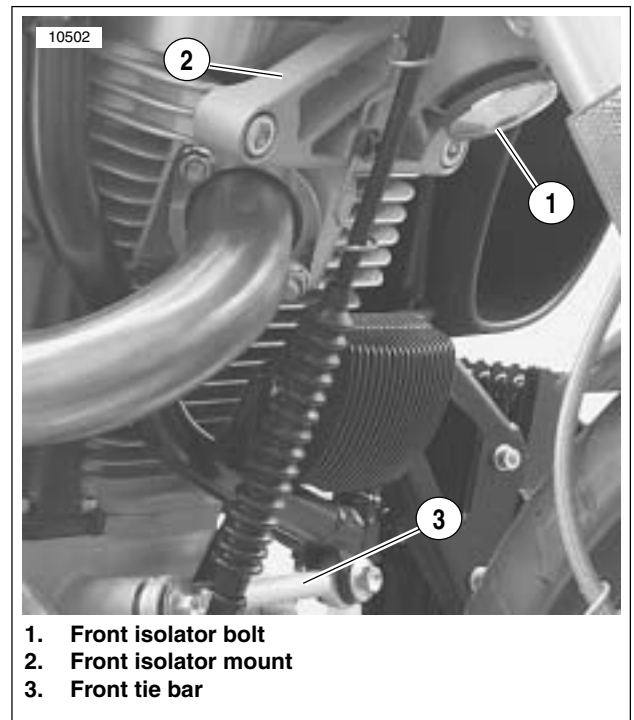

Figure 3-8. Front Isolator and Tie Bar Assemblies
26. See Figure 3-8. Remove front isolator bolt (1).
27. Remove front isolator mount (2) from engine.